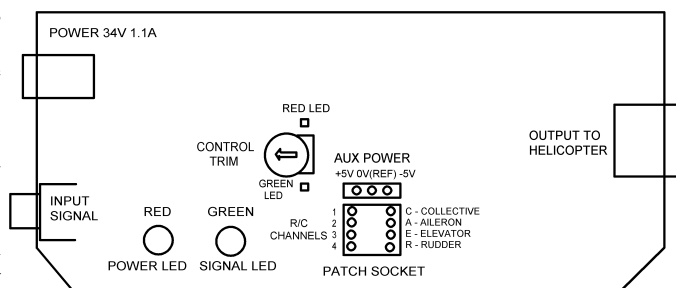

Fig. 6-1 Location of Channel Patch Socket
To gain access to the Channel Patch Socket, it is necessary to open the ECP (see Section 14L for instructions). Fig. 6-1 shows the location of the Patch Socket. Patching is done using four black link wires, which plug into the socket terminals. Text on the circuit board identifies each terminal. The links may be crossed over each other, but each link must connect *across* the socket, linking a channel to a control function, and when the set-up is complete all four links **must** be in place.
Two small LEDs, located on either side of the Control Trim Adjuster (Fig. 6-1), are connected by circuitry in the ECP to the Patch Socket Rudder (R) terminal. They indicate when the Rudder is pushed to the left (red LED), or to the right (green LED), or centred (neither LED). They will be used later to trim the ECP.
The final adjustment required is to set the control trim, so that each function is at neutral when the joysticks are centred. There is a single adjustment inside the ECP for this purpose, which sets the trim for all four channels at the same time. This control is located close to the Patch Socket (Fig. 6-1). On either side of it are two small indicator LEDs, already discussed in Section 7. One of these may be lit. The trim is set as follows: